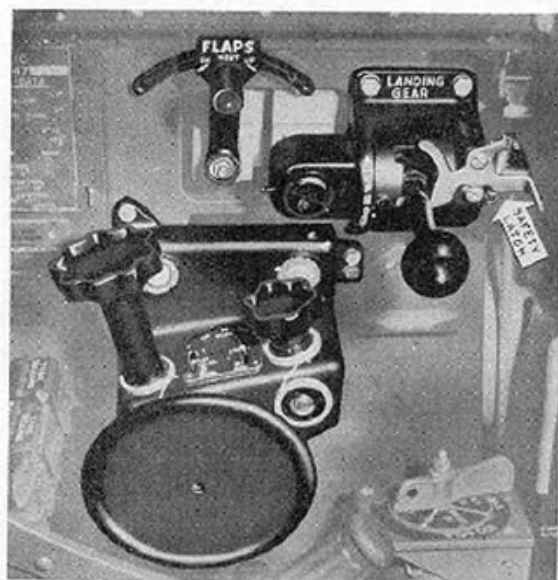

Figure 15—Trim Tab, Landing Gear, and Wing Flap Controls
**a. AILERONS AND ELEVATORS.** — All-metal, balanced control surfaces are operated with the conventional stick-type control. On models P-47D-30 and later, a refined aileron of the blunt-nose type is used. The blunt-nose type surface lessens the possibility of aileron buffeting in high speed dives. On all models, adjustable trim tabs are built into the left aileron and the trailing edges of the elevators. They are adjusted by the trim tab control unit (figure 15) in the cockpit. Fixed trim tabs are installed on the right aileron and each elevator. These are adjusted at the factory and provide correction for minor manufacturing tolerances.
**b. RUDDER.** — The all-metal rudder is controlled by conventional pedals. An adjustable trim tab is built in the rudder trailing edge and is set by the trim tab control unit (figure 15) in the cockpit.
**d. WING FLAPS.** — Each wing flap extends from the fuselage to the aileron and may be fully extended or held in any intermediate position by use of the control unit (figure 15) in the cockpit. The flaps are hydraulically operated.
**a. MAIN GEAR.** — The main gear units are full-cantilever independent right and left air-oil shock struts mounted in the wing and retracted hydraulically. Hydraulically controlled downlock mechanism retains the gear in its extended position and a mechanical uplock assists hydraulic pressure in holding the gear in its retracted position. The gear is controlled by a unit (figure 15) in the cockpit. A warning light is provided to indicate whenever the gear is in transit. A switch on the throttle also causes the warning light to glow if the gear is not locked down when the throttle is retarded to a point insufficient to main-